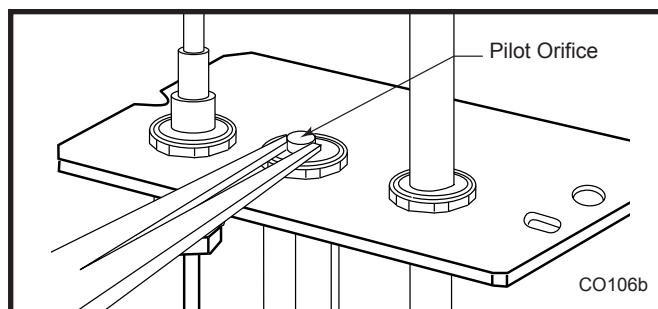

Fig. 55 Remove pilot orifice.
- Remove pilot orifice with needlenose pliers. (Fig. 55) **NOTE:** Use a wrench to hold pilot tube in place while removing the orifice.